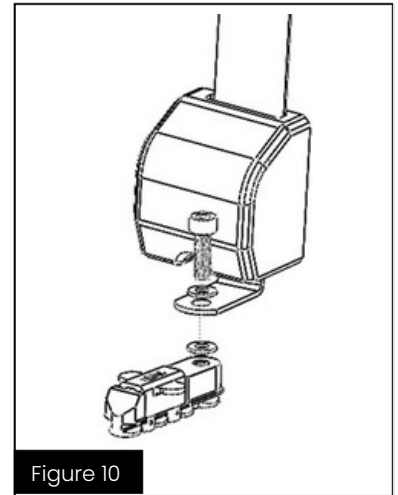

Figure 10
- Fasten retractor base to applicable Fitting using bracket and hardware as shown in Figure 10.